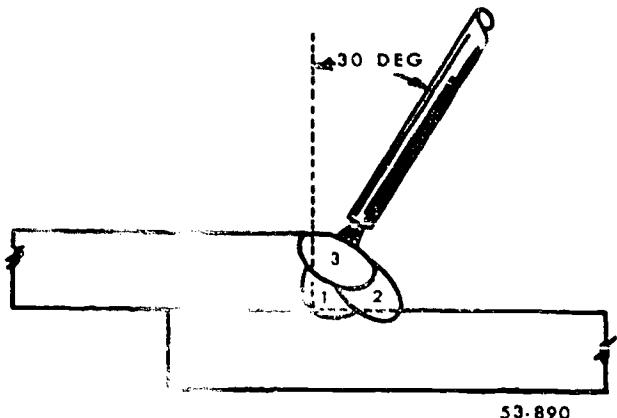

Figure 3-36. Electrode position for lap joints.
**Lap Joints.** To make lap joints, tack-weld two overlapping plates in place and deposit a fillet weld in the horizontal position along the joint. The procedure for making this fillet weld is similar to that for making a fillet weld in tee joints. Hold the electrode to form an angle approximately  $30^{\circ}$  from the vertical and tilt it  $15^{\circ}$  in the direction of welding. The position of the electrode in relation to the plates is shown in figure 3-36. The weaving motion is the same as that for tee joints, except that the pause at the edge of the top plate is long enough to insure good fusion and no undercutting. You can make satisfactory lap joints on 1/2-inch plate or heavier by depositing a sequence of string beads, as shown in figure 3-36. To make lap joints on plates of different thicknesses, hold the electrode at an angle between  $20^{\circ}$  and  $30^{\circ}$  from the vertical. Do not overheat or undercut the thinner plate edge. The arc must be controlled to wash the molten metal to the edge of this plate.